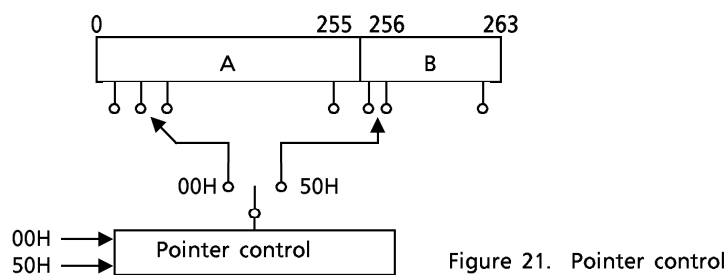

Figure 21. Pointer control
(2) Pointer control for "00H", "50H"
The TC5816 has two Read modes to set the destination of the pointer in either the main memory area of a page or the redundancy area. The pointer can be designated at any location from 0 to 255 in Read mode (1) and from 256 to 263 in Read mode (2). Figure 21 shows a block diagram of the modes' operations.